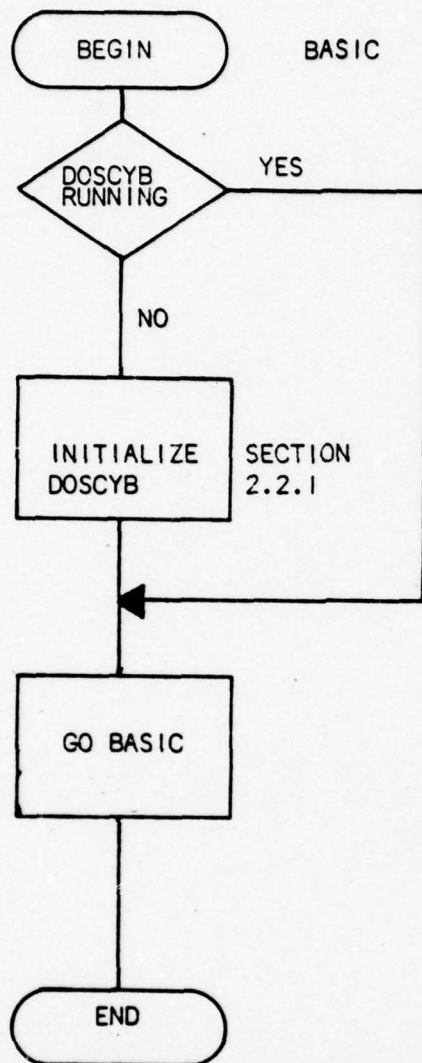

Figure 2-3 BASIC Initialization Flowchart
2.2.2 BASIC Initialization. The DOSCYB program must be initiated and running prior to initializing the BASIC program. Perform the following steps to initialize BASIC (see Figure 2-3):